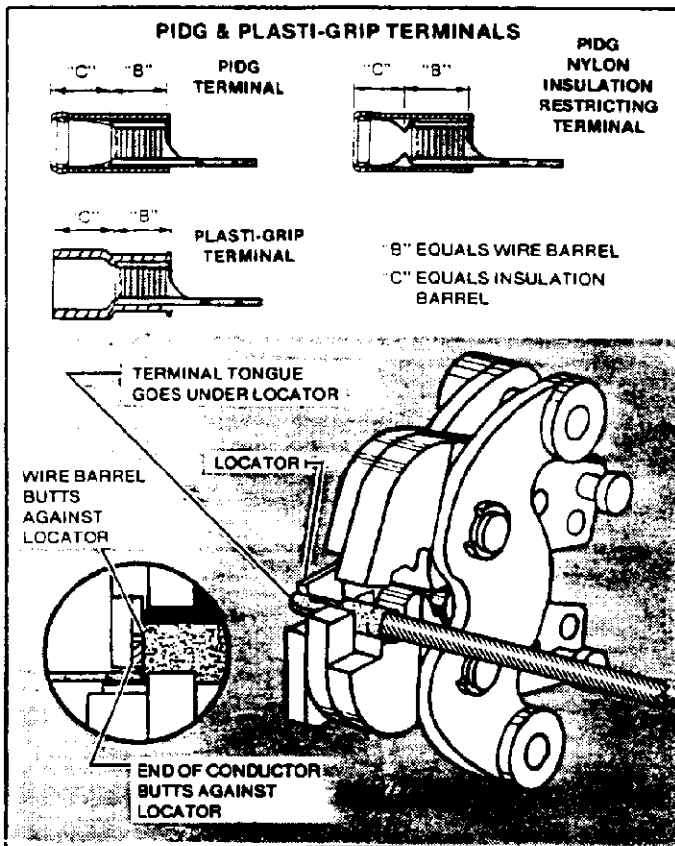

Figure 3
- (b) Place terminal in dies so that tongue goes under locator and wire barrel butts against locator. See Figure 3.
- (c) Insert stripped wire until end of conductor butts against locator as shown in Figure 3.
- (b) Place terminal or splice in crimping dies as shown in Figure 3 or 4.
- (c) Insert UNSTRIPPED wire into ONLY the insulation barrel (see Figure 3 or 4) of the terminal or splice.
- ③ Wire size is not within wire range stamped on terminal tongue or splice.
- ④ Crimp not centered on wire barrel. (Terminal was not butted against locator. See Figure 3.)
- ⑤ End of conductor is not flush with or extending beyond end of wire barrel. (Check for correct strip length.)